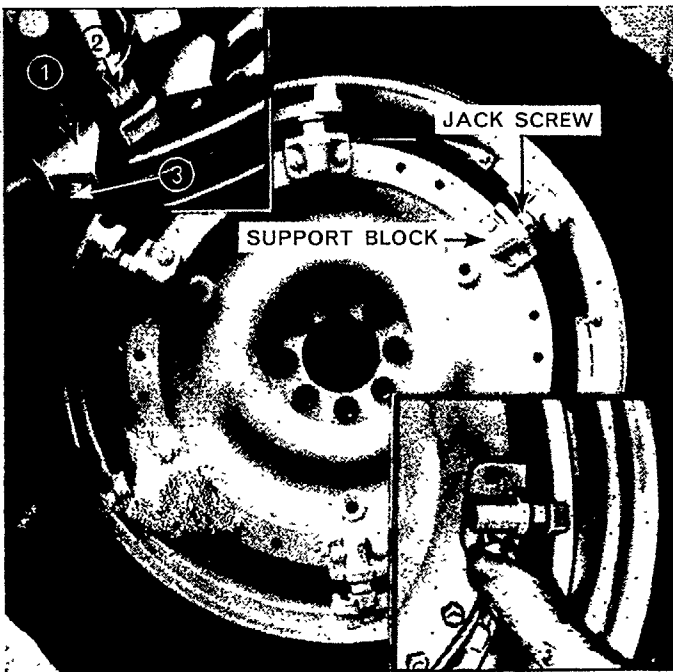

Figure 4
The power adjusted wheels allow the rear wheels to be adjusted from 56 inch (142 cm) to 90 inch (229 cm) by using tractor power. The rear wheels have two width ranges depending on the position of the support blocks, Figure 4. With the blocks on the outside, as shown, the range is 66 inch (168 cm) to 90 inch (229 cm). With the blocks reversed (inside the wheel disc) the range is 56 inch (142 cm) to 80 inch (203 cm).
1. Loosen the locking nut, (2), inset, Figure 4, on the four upper jack screws. Identify the four blocks with a chalk or pencil mark (this will enable the correct blocks to be selected for tightening after the wheels are spaced).
2. Remove the bolt (3), inset, Figure 4, from the stop lug (1) on the side to which the wheel will be moved. Position the stop lug to the desired setting (each hole in the bar represents a 2 inch (5.08 cm) change in track per wheel) and secure it with the bolt.
6. Install the other stop lug (1) inset, Figure 4, to secure the wheel adjustment. Tighten the locking nut on the four jack screws to 100 lb. ft. (13.8 m.kg.), then, uniformly increase their tightness (25 lb. ft. (3.46 m.kg.) at a time) until each has been torqued to 200 lb. ft. (27.6 m.kg.).
1. Loosen the locking nut (2), inset, Figure 4, on the four upper jack screws. Identify the four blocks with a chalk or pencil mark.
2. Remove one block at a time, see the inset, Figure 4, and position it on the bolts to 125–150 lb. ft. (17.3–20.7 m.kg.).